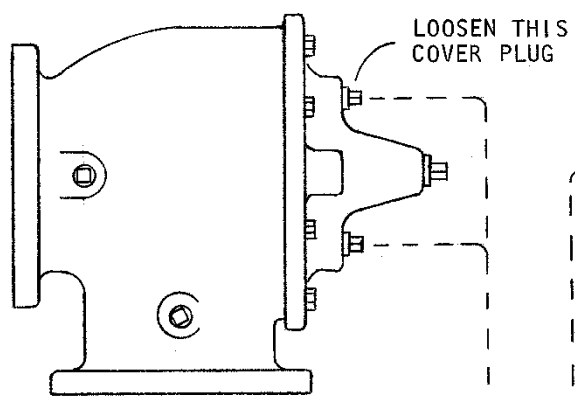

FIG. 2
- (A) CAREFULLY LOOSEN THE TOP COVER PLUG AND VENT THE AIR UNTIL WATER IS OBSERVED. DO NOT REMOVE OR BACK THE COVER PLUG ALL THE WAY OUT. WHEN A STEADY FLOW OF WATER IS OBSERVED, TIGHTEN THE COVER PLUG.
- (A) VALVES WITH VERTICAL COVER TAPPINGS FIG. 2. CAREFULLY LOOSEN THE FITTINGS IN THE UPPER COVER CONNECTION AND VENT THE AIR UNTIL WATER IS OBSERVED. WHEN A STEADY FLOW OF WATER IS OBSERVED, TIGHTEN THE FITTING.